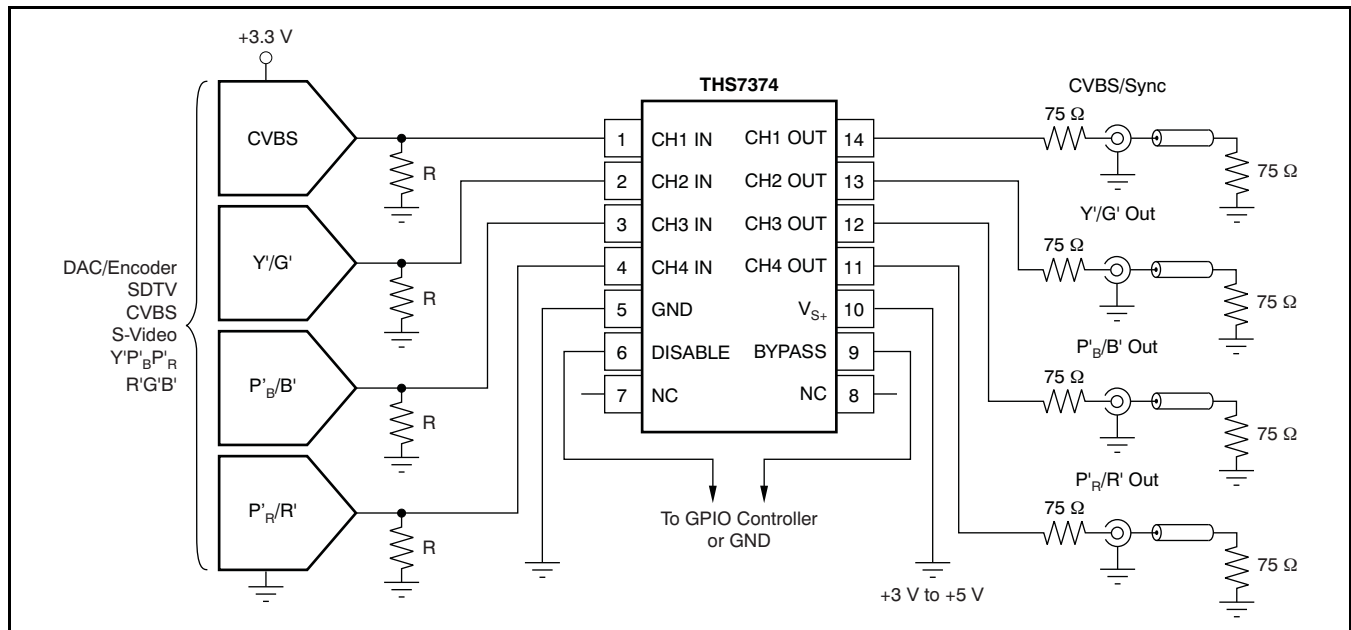

Figure 57. Typical SDTV CVBS/ $Y'P'_BP'_R$ Inputs from DC-Coupled Encoder/DAC with DC-Coupled Line Driving
A typical application circuit that uses the THS7374 as a video buffer is shown in Figure 57. It shows a DAC or encoder driving the input channels of the THS7374. One channel is a composite video (CVBS) channel of a standard definition (SD) video system. The other channels are the component video $Y'P'_BP'_R$ (sometimes labeled $Y'U'V'$ or incorrectly labeled $Y'C'_BC'_R$) signals of a 480i or 576i system. These channels could easily be the s-video Y'/C' channels or the $R'G'B'$ channels of a SCART system.